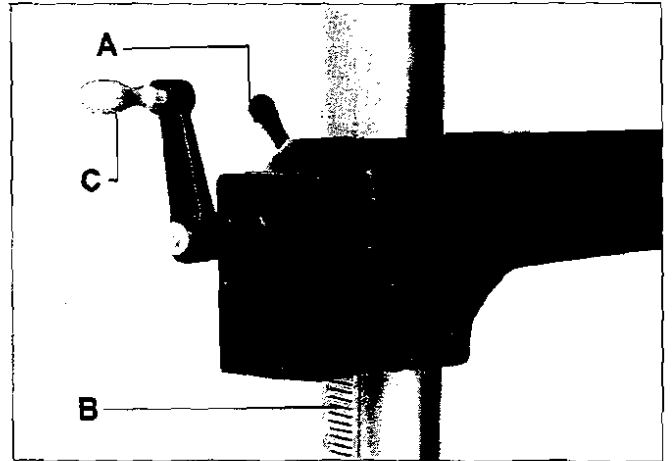

Fig. 3
1. Tighten table lock handle (A). Fig. 3